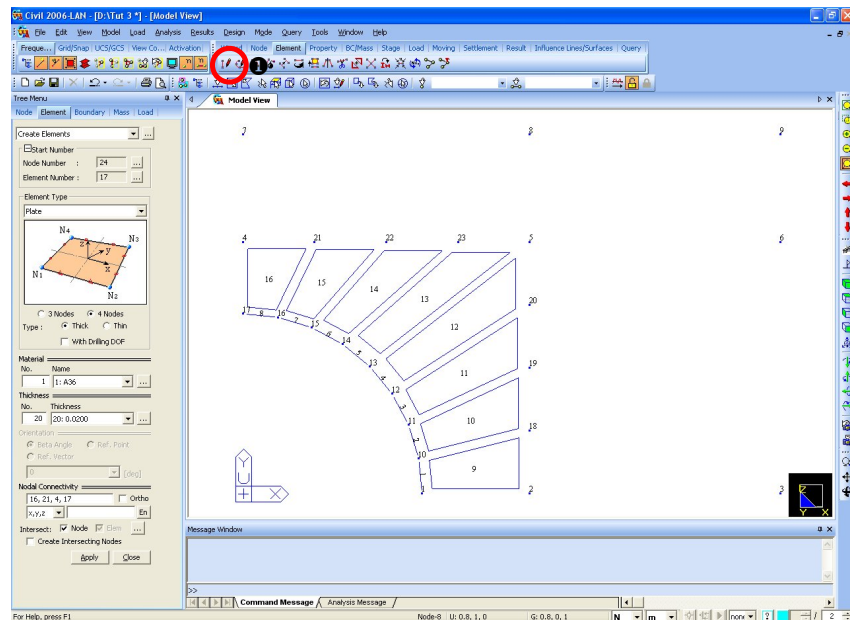

Figure 3.5 Generation of Plate Elements around the Circular Opening
1. Select  **Create Elements** in the Element Toolbar (Fig.3.5—①).